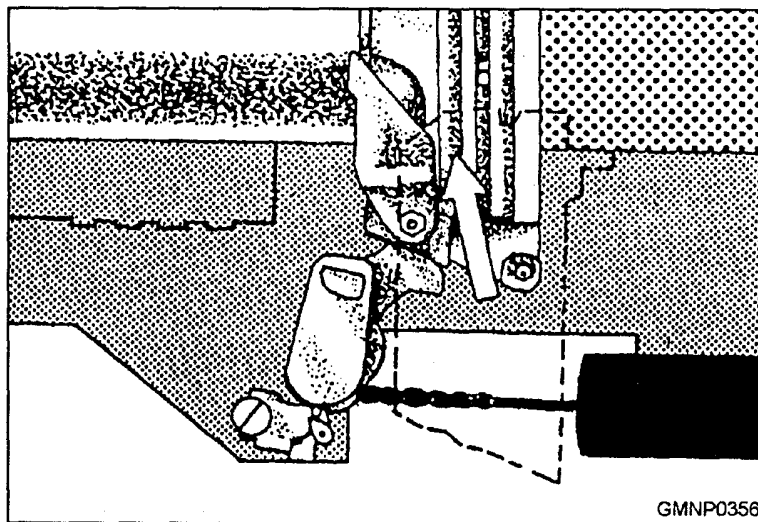

Figure 6-9.—The sliding wedge breechblock.
**Breechblock**—The breechblock seals the breech end of the barrel. Breechblocks are of two different types—sliding wedge or interrupted thread. The sliding wedge consists of a machined steel plug that slides in a grooved way in the housing to cover the breech opening. The grooves are slanted so that the breechblock moves forward as it covers the back of the casing, wedging it in place. The interrupted thread breech plug closes similar to the way a bayonet lug camera lens is installed. The lugs on the plug are cut to allow it to be inserted into the grooves cut in the threaded breech. Once inserted, the plug is turned 120° and locked in place. The Mk 45 and Mk 75 use the sliding wedge breechblock. The sliding wedge breechblock is shown in figure 6-9.